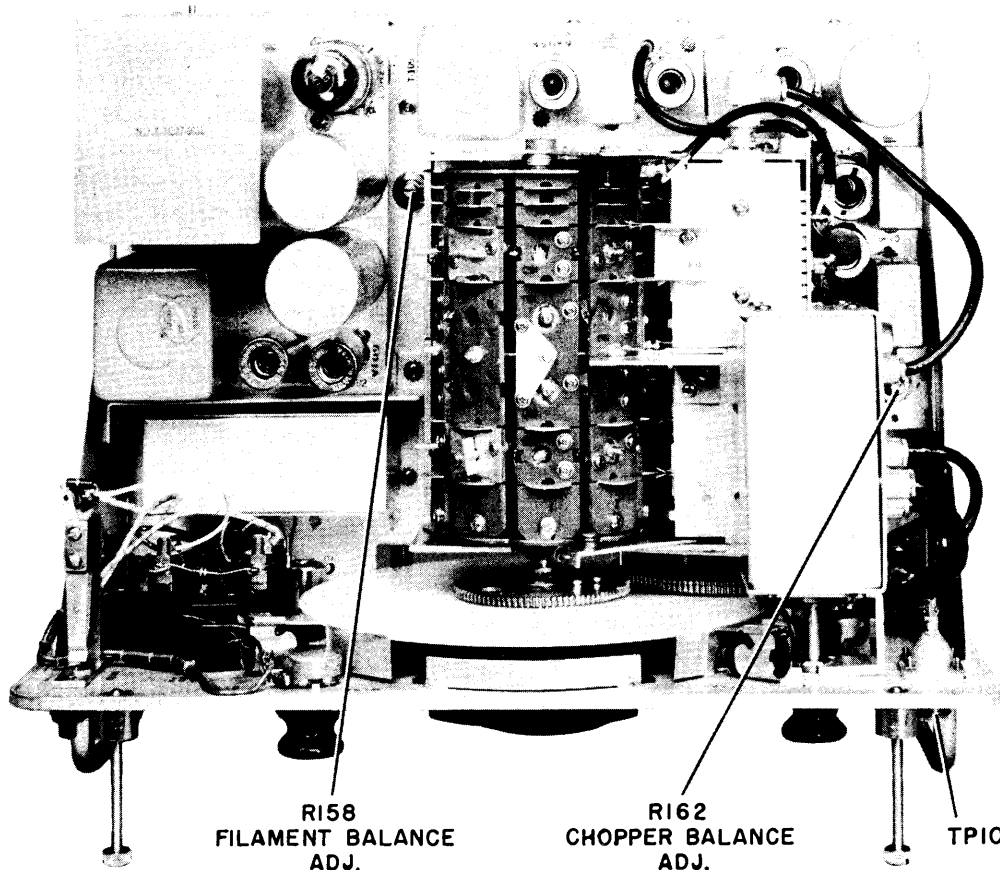

Figure 7-5. Adjustment Locations and Test Point Locations, Top of Chassis, Field Strength Meter IM-84/URM-50
Step 5. Connect R.F. Signal Generator Type AN/URM-25 to the antenna connector J106 (test point no. 10, Figure 7-5). To make this connection use the R.F. Cable Assembly CG-409A/U (7''), the R.F. Cable Assembly CG-409A/U (4'0'') the Antenna Simulator SM-35/URM-25 and Coupler Adapter UG-201/U.
—The two controls used for the chopper hum balancing adjustment are screwdriver adjusted. Both of these adjustments are accessible at the top of the chassis. See Figure 7-5 for the location of these controls. Proper adjustment is accomplished in the following manner: